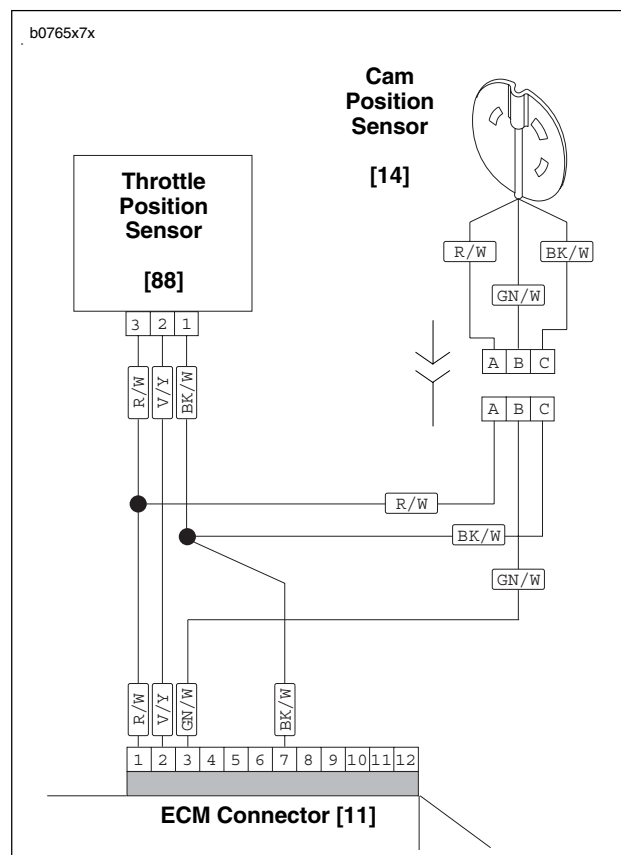

Figure 4-69. Connecting Sensor Wires
2. Install trigger rotor (17).
- a. Apply LOCTITE THREADLOCKER 243 (blue) to threads of bolt (18).
- b. Position trigger rotor (17) onto end of camshaft aligning notch with camshaft slot.
3. Install cam position sensor (18) and timer plate studs (4). Rotate cam position sensor to its previously marked position to obtain approximate ignition timing.
5. See Figure 4-69. Install sensor wiring terminals into correct positions in plug end of connector [14]. R/W, GN/W and BK/W wires of plug end (from cam position sensor) must match same color wires in receptacle end of connector (from ignition module wiring harness). Install pin terminals. See B.2 DEUTSCH ELECTRICAL CONNECTORS under B.1 AMP MULTILOCK ELECTRICAL CONNECTORS.